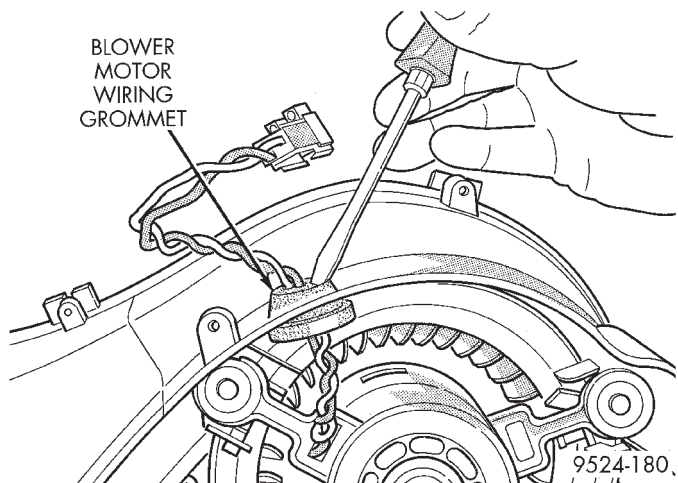
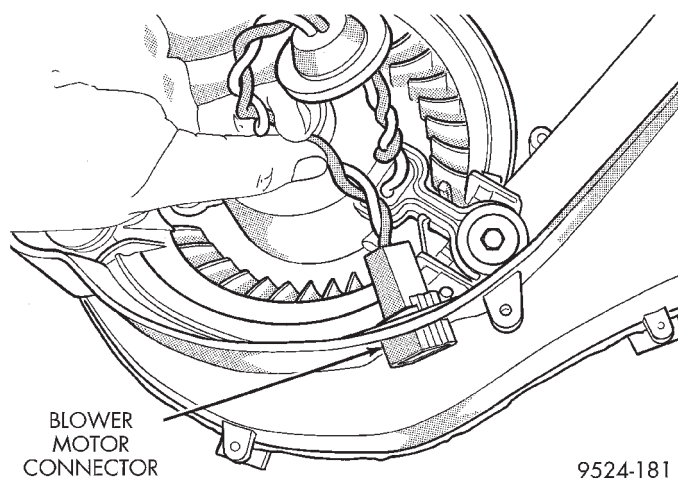

Fig. 16 Wiring Grommet
Fig. 17 Feeding Wiring Through Housing
(4) Remove grommet for wiring (Fig. 16). Feed wiring through blower housing (Fig. 17).